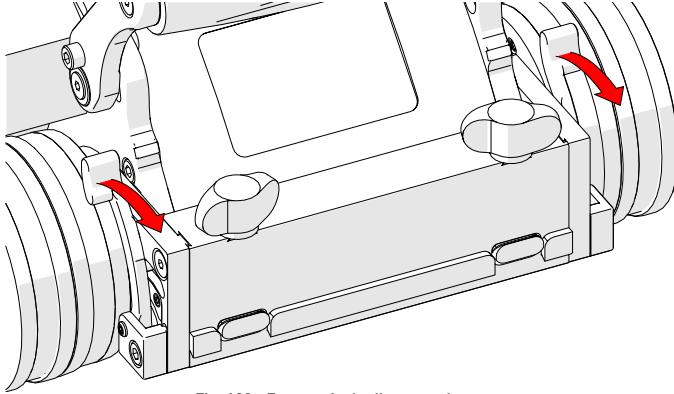

Fig. 180 - Front swivel adjustment levers
2. Release the front swivel adjustment levers (Fig. 180), located at the front of the crawler, to position the front swivel mount.